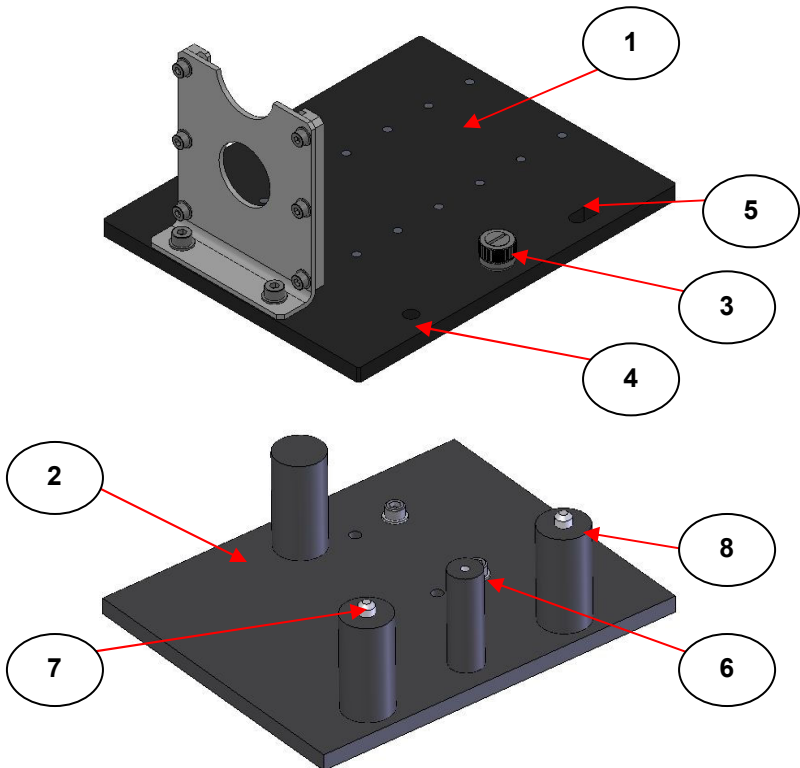

Fig 1. Fitting of 3" x 2" Slide Mount Adapter Baseplate (1) to a Benchmark™ Baseplate (2)
Fig 1. shows the 3" x 2" Slide Mount Baseplate (1) (P/N GS16300) to be mounted onto a typical example of Benchmark™ baseplate (2). (The Benchmark™ baseplate example is for a Nicolet spectrometer - our P/N 549-093).
The fixing thumbscrew (3) on baseplate (1) aligns with the central screw hole on the pillar (6) of the Benchmark™ baseplate (2) for the orientation of the baseplates as shown in Fig 1. In this orientation the circular hole (4) and slot hole (5) on baseplate (1) locate with the fixing studs on pillars (7) and (8) respectively of the Benchmark™ baseplate (2).